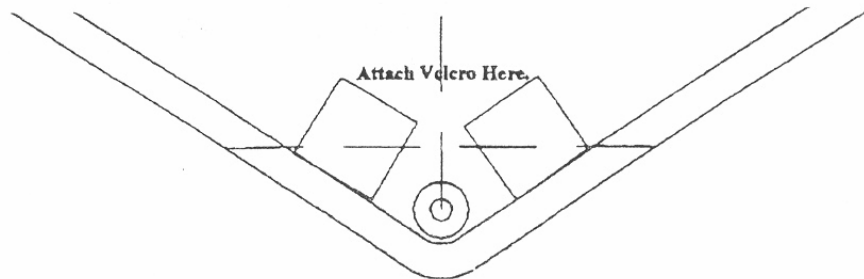

Figure 2.
Step 7. Sew the 1" square pieces of pile Velcro to the underside of the yoke flap. Aligned them to the edge of the binding tape in line with the grommet. (see Figure 2 over page)